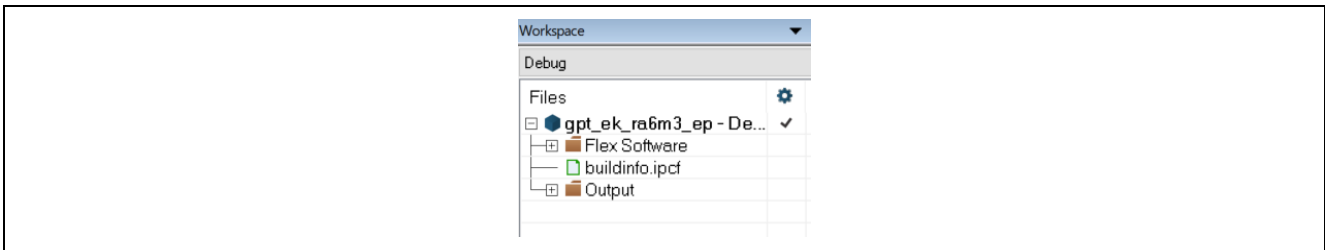

Figure 21. Project Structure
3. After opening the project, you should see the project structure as shown in Figure 21.